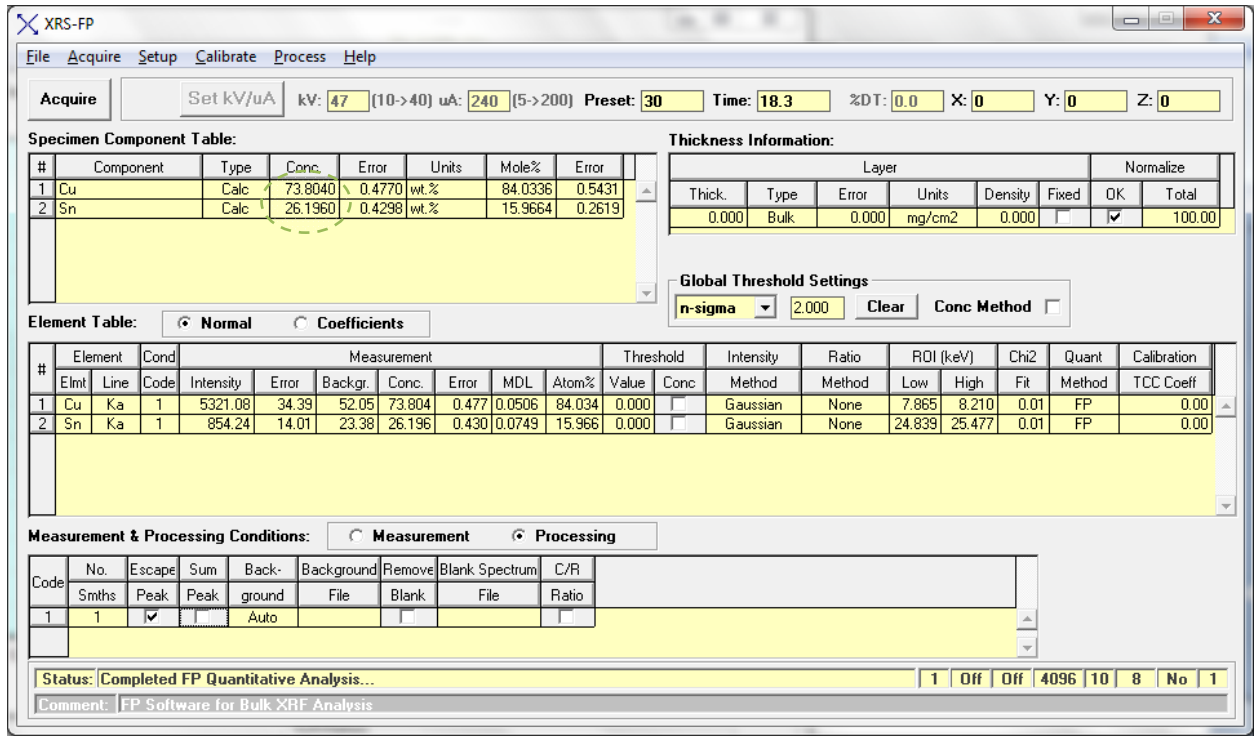
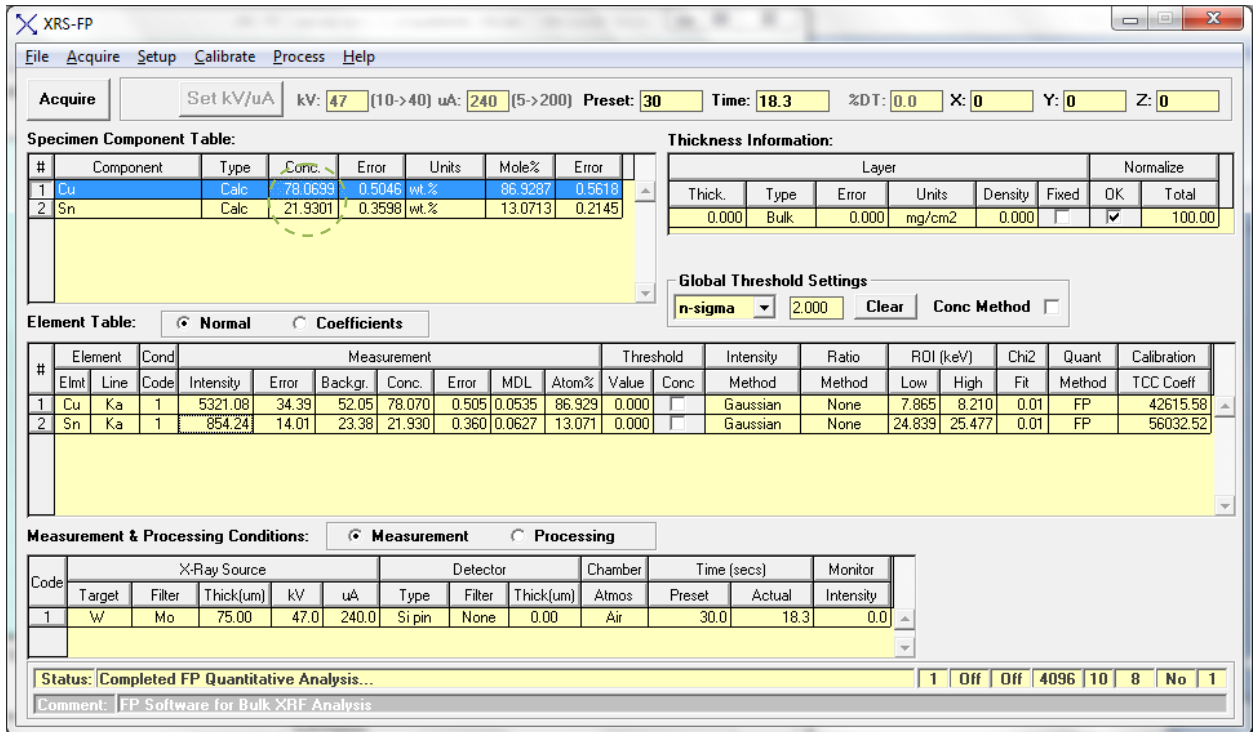

Figure 9 Standardless Analysis
Figure 14
8.1. So, having defined the elements in the bronze and extracted the net intensities a Standardless analysis can be made. **Click Process>Analyze** and results of the standardless analysis of the bronze are displayed – Wt% (Conc. in the Component Table) and Mole% (see Figure 9). Note that standardless results are always normalized to 100% - the total sample matrix must be defined.
3. Quantify – **Process>Analyze** – Figure 14 below. Compare these results to the standardless results – Figure 9. Cu values are within 6% relative and Sn values are within 16% relative.